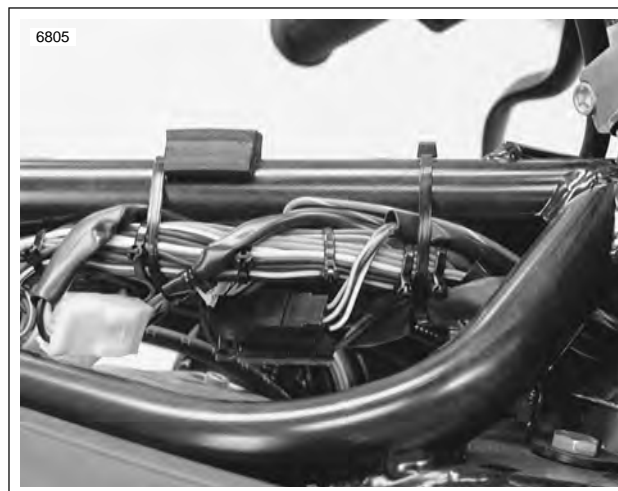

Figure 7-64. Tachometer Wiring Connector Locations (Approximate)
- b. Cut cable straps on wiring harness. See Figure 7-64. Detach wires at plug connector.
- a. See Figure 7-64. Attach wires at plug connector.